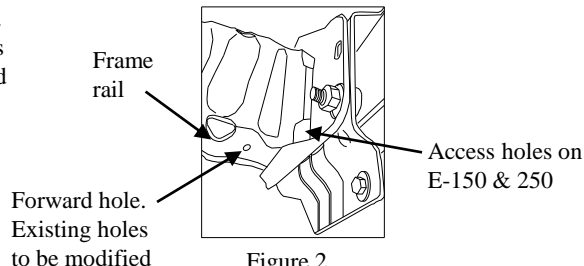
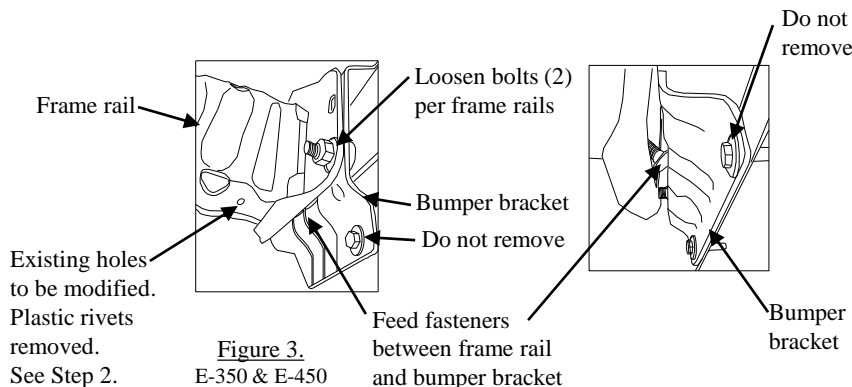

Figure 2.
Figure 3.
- If present (E-350 & E-450) remove any plastic rivets from (see Figure 3) forward attachment on vehicle. Fold plastic between plastic covering and frame rail.
- Feed carriage bolts and spacers thru access point at forward end of frame rail (E-150 & E-250) using a pull wire as shown. See Figure 2. Note: On E-350 & E-450 loosen bolts at the end of the frame rail (See Figure 3) and bumper bracket enough to feed fasteners into the opening at the end of the frame rail. Do not remove bolts completely. See Figure 3. The bumper may shift downward slightly. After feeding fasteners into frame rail, raise and retighten bolts.